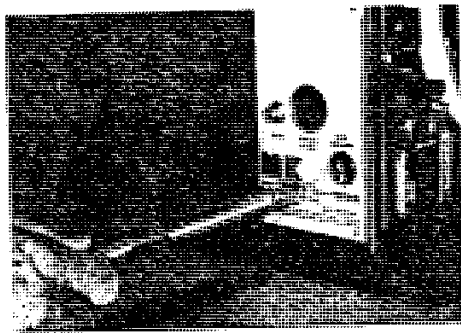

Figure 9
7. Attach spring scale to wire end as shown in **Fig. 9**.